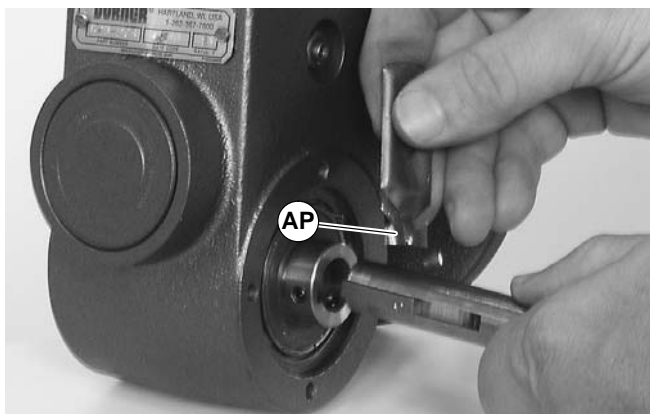

Figure 26
10. Apply grease (AP of Figure 26) to shaft.